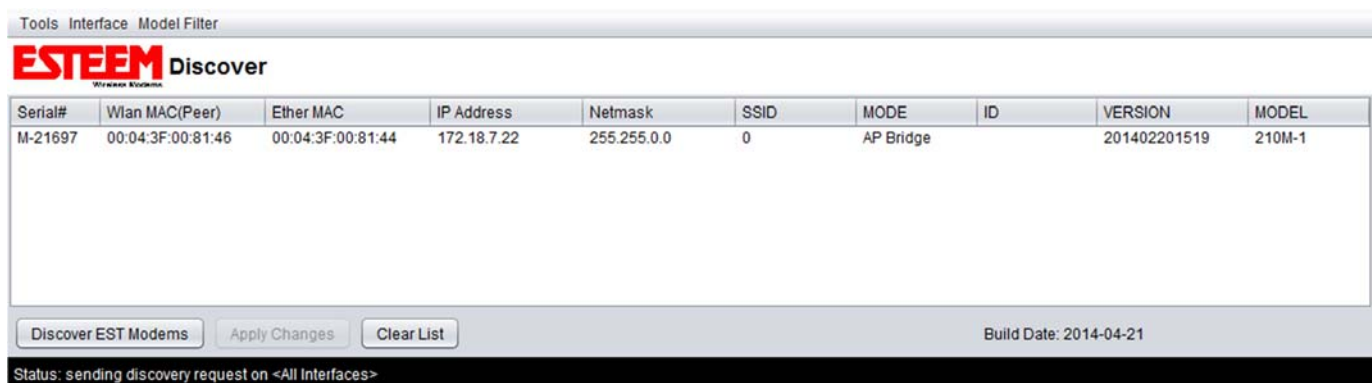

Figure 5: Discovery Utility
- Connect the Model 210 to your computer either directly to the Ethernet card or through an Ethernet Switch using a CAT-5e Ethernet cable. The Ethernet port on the 210 supports Auto-Negotiation, so either a patch cable or crossover cable will work. Open the ESTeem Discovery Program and press the Discover EST Modems button. The Discovery Program shows you the following information about your 210 Modem; Serial Number, WLAN MAC, Ethernet MAC, IP Address, Netmask, SSID, MODE, Modem ID, Firmware Version, and Model Number (Figure 5).
- Double-click on the IP Address of the 210 you want to program and the field will change to allow editing (Figure 5). Enter an IP address and hit enter. Do the same for a Subnet Mask for the 210 that matches your network subnet. When